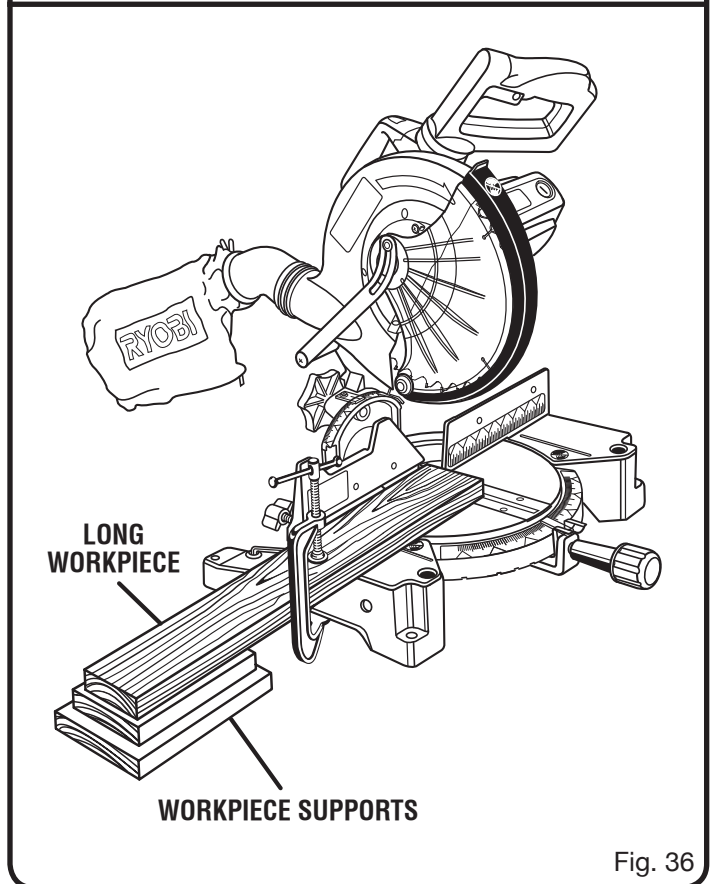

Fig. 36
- When cutting long pieces of lumber or molding, support the opposite end of the stock with a roller stand or with a work surface level with the saw table. *See Figure 36.*
See Figure 36.